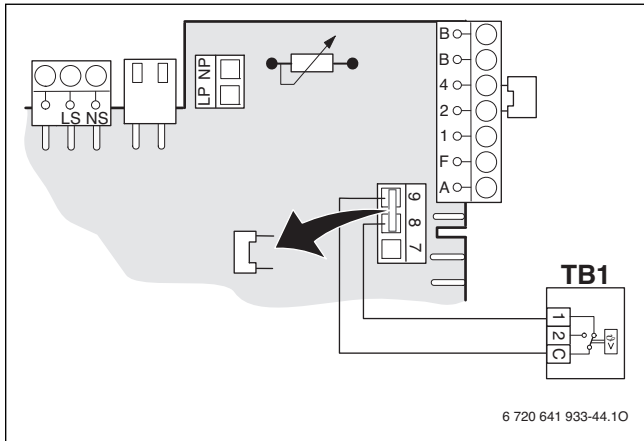

Fig. 39 Electrical wiring TB 1
- ▶ Connect the leads labeled SWITCH CONTACT (yellow) to the TB1 temperature switch (→ Fig. 39, page 32) on the Heatronic.